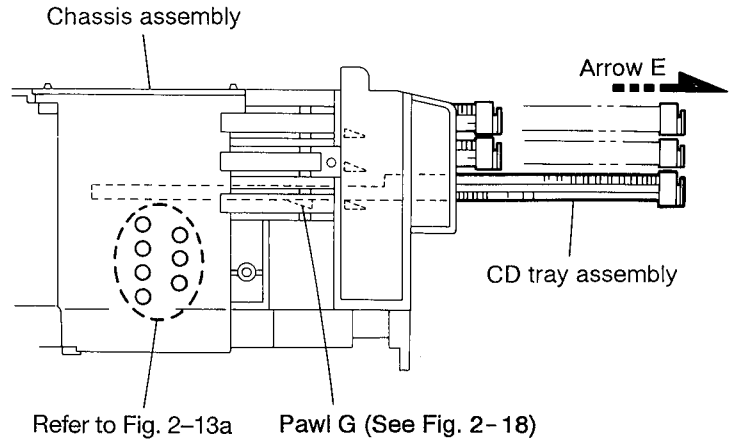

Fig. 2-15
13. Pull out all of the three stages of CD tray assembly in the arrow direction (E) until these stages stop (See Fig. 2-15).